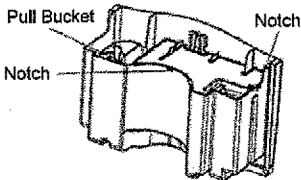

Fig. 2
2. Gently pull at the back and front of the bucket to dislodge the bucket cover from the notches. (Fig. 2)
2. Carry the bucket by grasping the front corner of the bucket with one hand and the back of the bucket with the other hand (Fig. 2)
(Fig. 2)